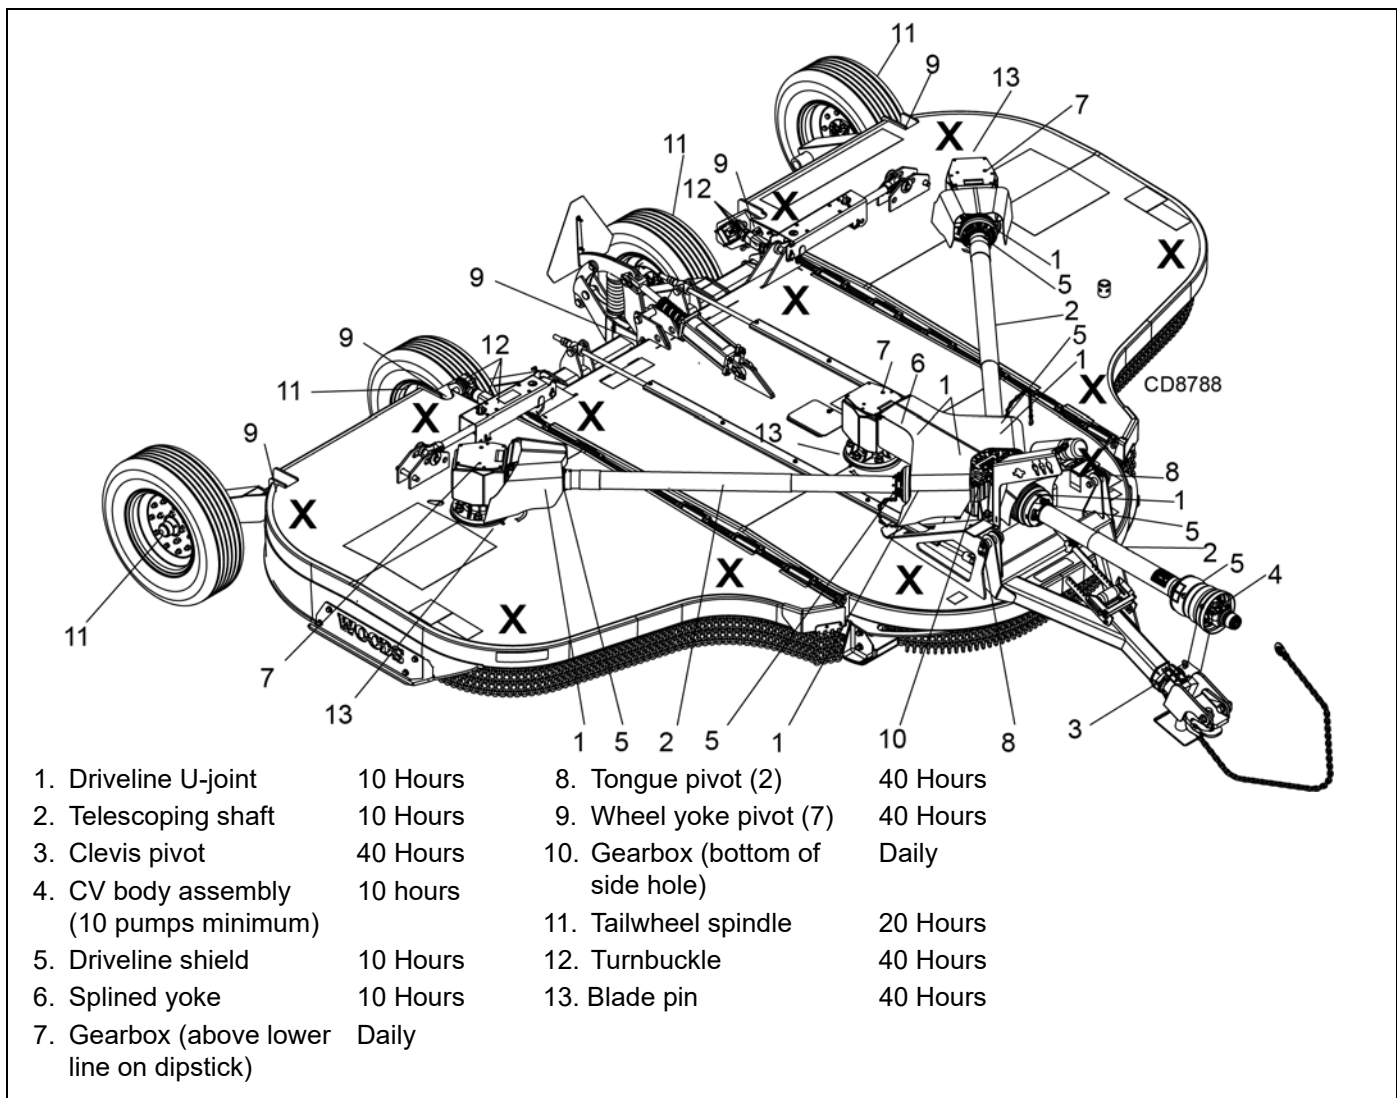

Figure 5. Jackstand Placement and Lubrication Points
1. Jackstands with a load rating of 1000 lbs. or more are the only approved blocking device for this cutter. Install jackstands (shown by **Xs** in Figure 5) under the cutter before working underneath unit.
See Figure 5 for lubrication points and frequency or lubrication based on normal operating conditions. Severe or unusual conditions may require more frequent lubrication.
2. Raise cutter and block securely (see Figure 5).
3. Align crossbar (8) with blade access hole in the cutter frame. Remove cap screw (16), blade pin lock clip (15), keyhole plate (14), spacer (13), and shims (11 & 12). Carefully drive blade pin (10) out of crossbar.